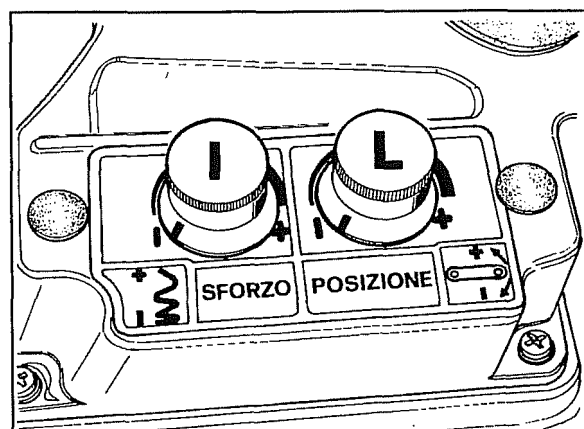

Fig.52
- f. Turn the rheostat **L** (F.fig.52) clockwise. At about the halfway point of its travel, the lift should begin to raise. If it does not, correct the regulation made previously screwing the sensor in or out on its mounting.